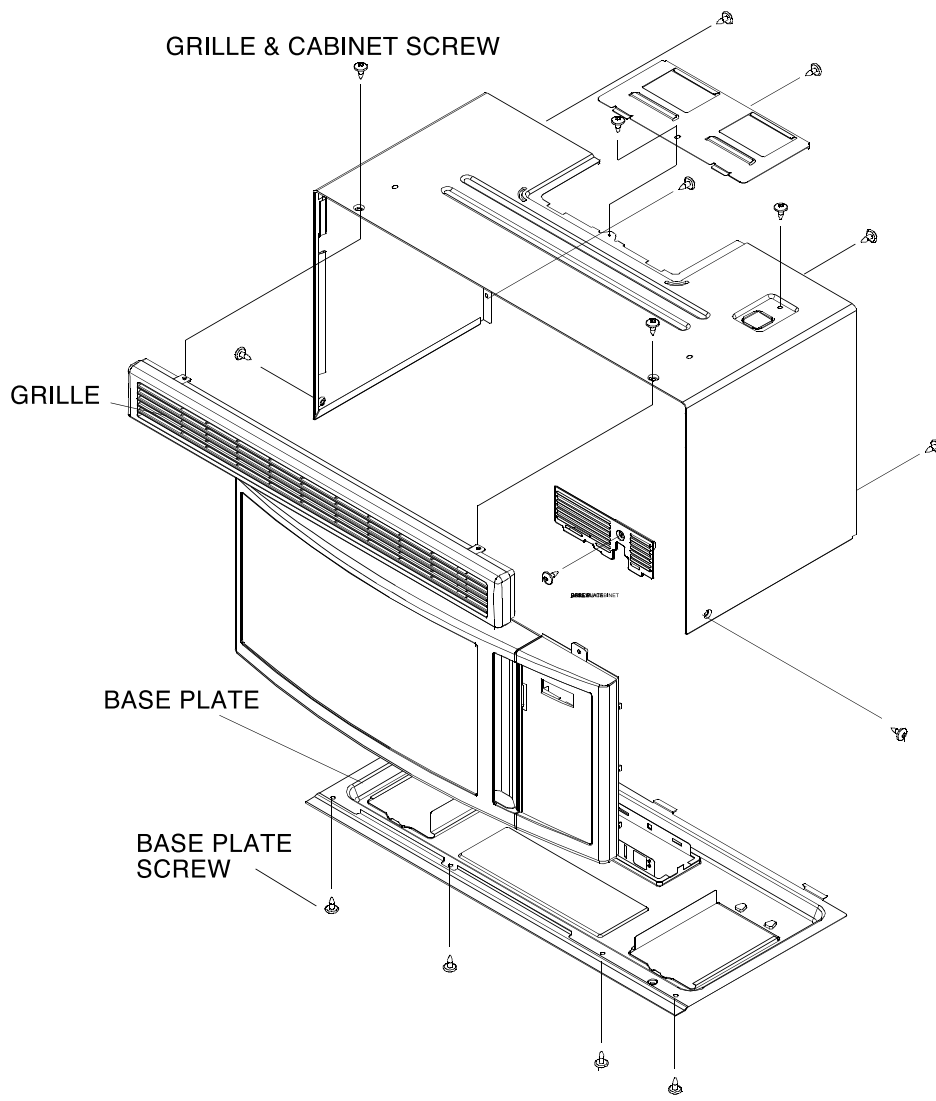
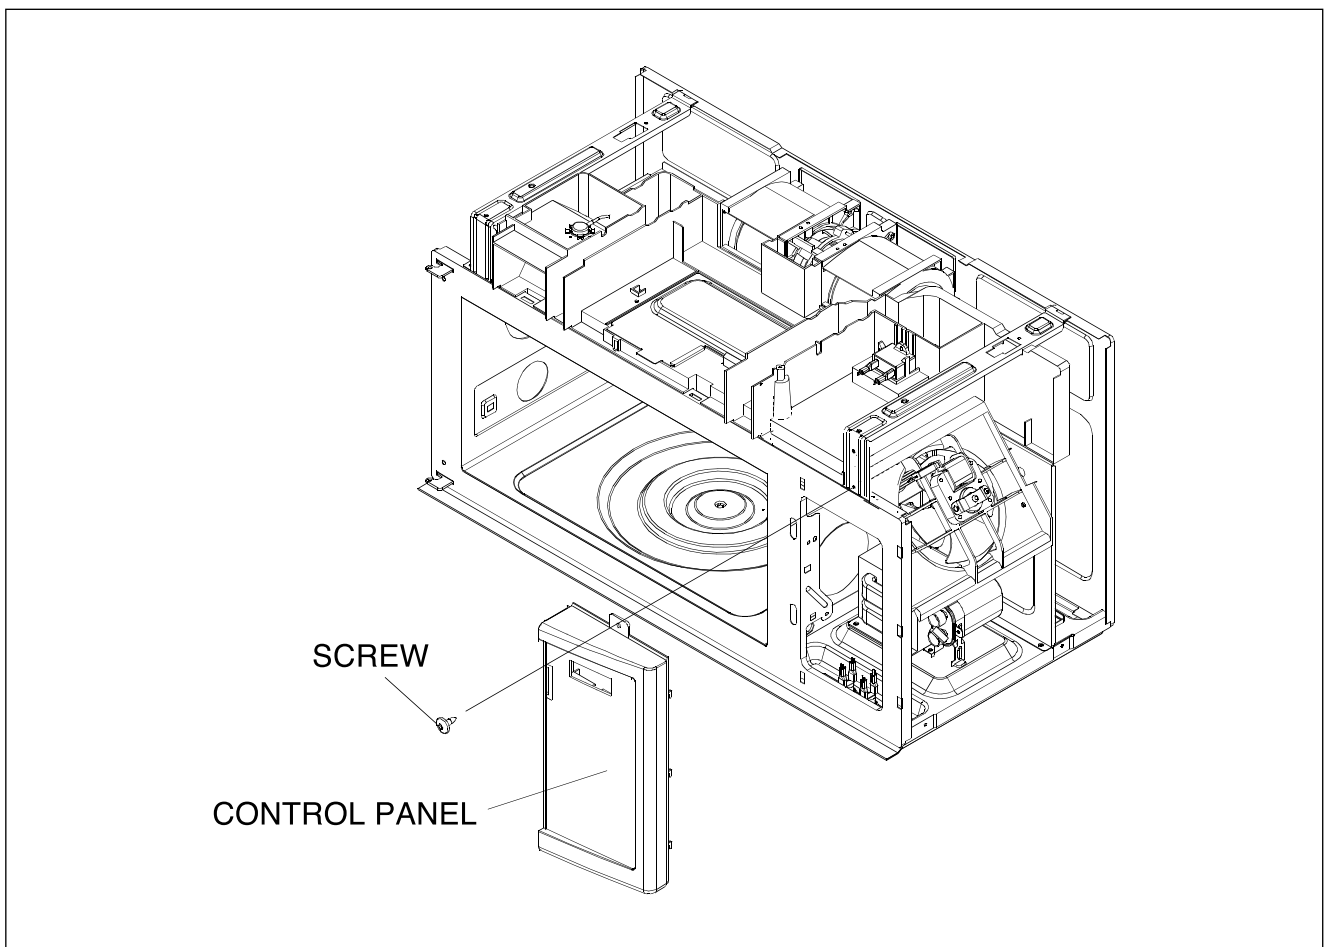

FIG. 1
FIG. 2
Refer to FIG. 1 for the following steps:
1. Remove the two screws from the top of the microwave oven for the vent grille and remove the grille(See FIG. 1). Refer to FIG. 2, FIG. 2-1 for the following steps:
2. Remove the screw from the front of the microwave oven for wire protector and remove the wire protector(see FIG. 1).
1. Remove the screws for the vent grille and remove the grille.(See FIG. 1 on page)
1. Remove 2 screws from the vent grille and remove the grille (See FIG. 1).
2. Remove the screw from the front of the microwave oven for wire protector and remove the wire protector(see Fig. 1).
3. Remove the screw from the top center tab of the control panel (See FIG. 2).
2. Remove the screw from the top center tab of the control panel.(See FIG. 2)
4. Remove the screw from the top center tab of the control panel (See FIG. 2).